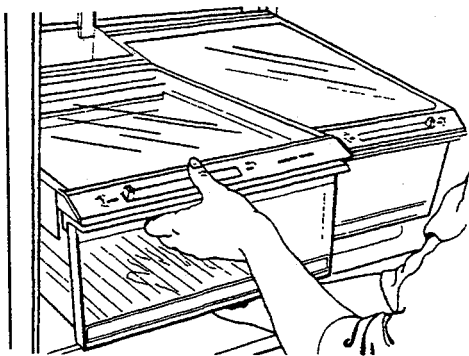

Figure 30
- g. Remove crisper system on left* side by grasping and lifting up top front with one hand while reaching underneath drawer and pushing up with other hand. See Figure 30.